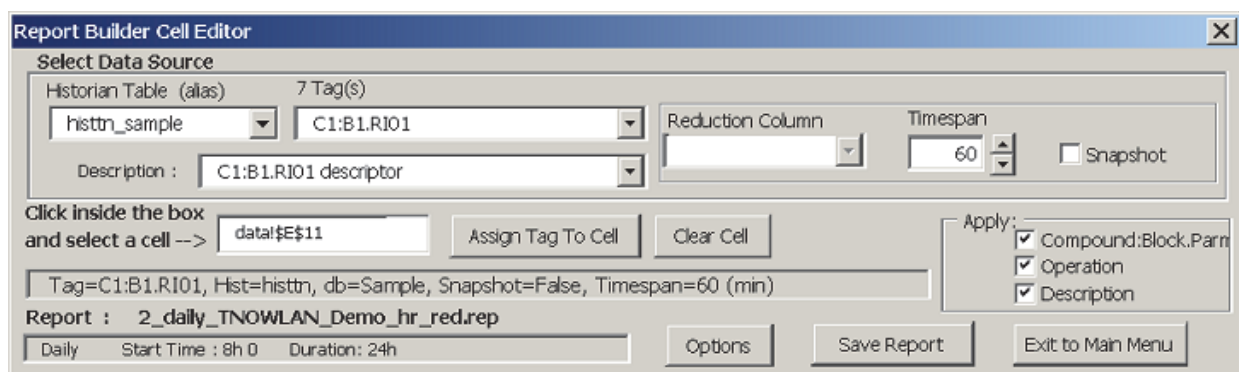
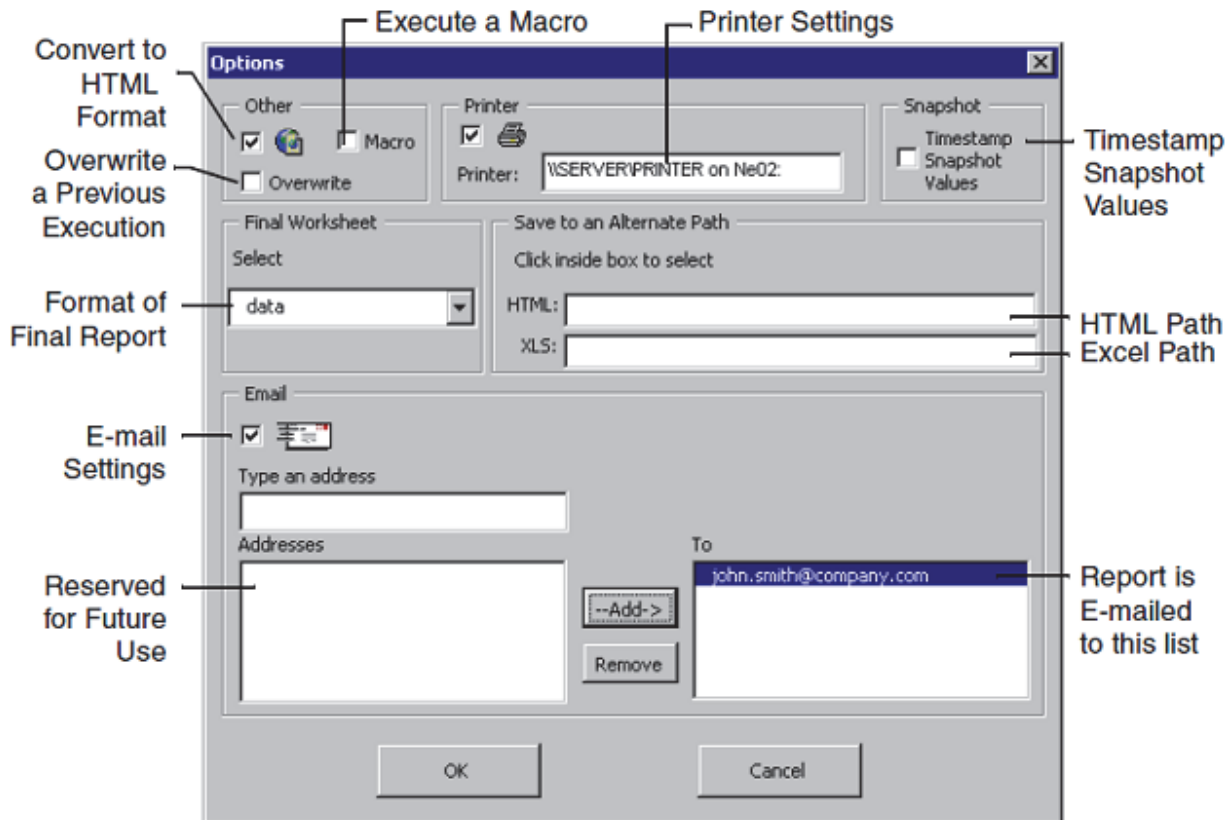

Figure 3-12. Report Builder Cell Editor Options Button
Figure 3-13. Options Configurator
1. Click **Options** (Figure 3-12) from the Cell Editor to display the Options Configurator (Figure 3-13).